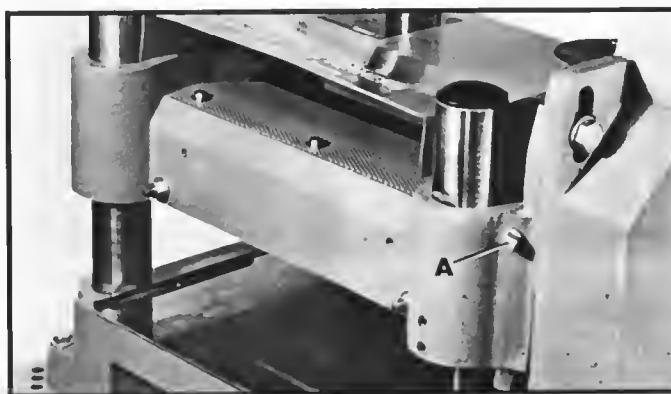
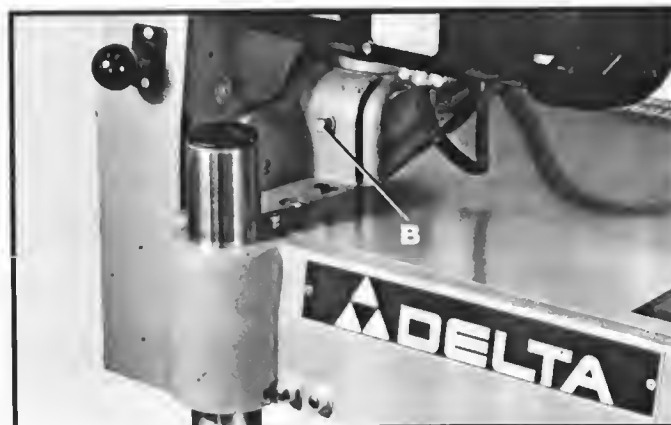

Fig. 43
Fig. 44
The gear box oil should be changed once a year using extreme pressure gear oil available from Delta in one pint cans under part no. 999-01-013-1210. The gear box drain plug is shown at (A) Fig. 43, and the oil fill and level plug is shown at (B) Fig. 44.